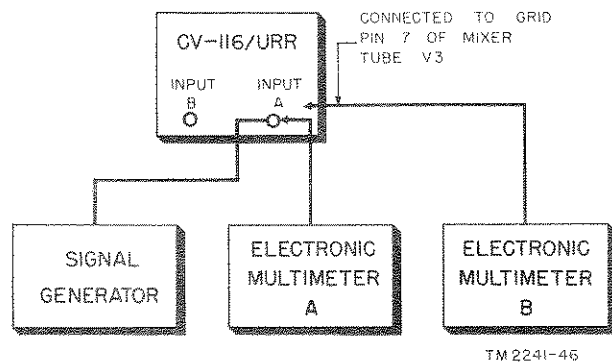

Figure 53. Setup for channel A rf circuit tests.
a. Connect the test equipment as shown in figure 53.